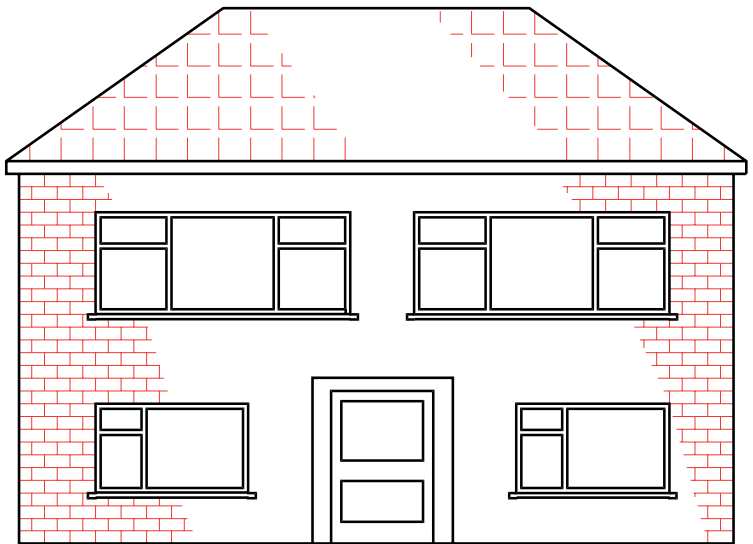

Fig. 8.18 Seventh example – the finished drawing
6. Finally turn the layer **Text** off. The result is given in Fig. 8.18.